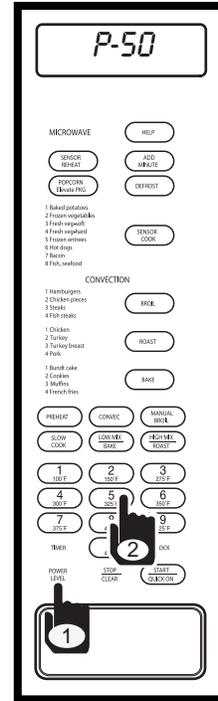

Figure 3-31.
2. Press POWER LEVEL key and “PRESS -POWER -LEVEL - KEY” will flash on display. For example: 70 percent power; press number 7 key. “P-70 - PRESS - START” will flash on display. (See Figure 3-31).